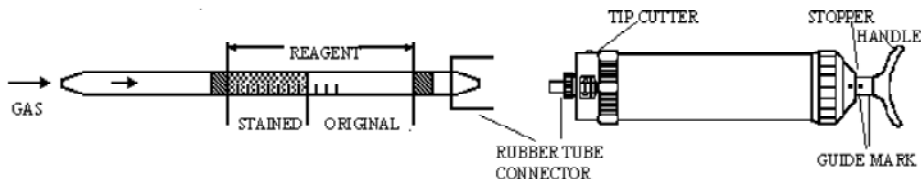

Fig.1
- ② Insert the detector tube into aspirating pump securely as shown in Fig.1. (Arrow mark shall point to the pump.)
- ③ Align the guide marks on the shaft and stopper of the aspirating pump.
- ④ Pull the pump handle at full stroke until it locks and wait for 2 minutes or until the completion of sampling is confirmed with the flow indicator of the pump (See descriptions about the flow indicator in the instructions of the pump).
- ⑤ On completion of sampling, read the scale at the maximum point of the stained layer.
- ⑥ If the discolouration is over the scale, change the tube and pull 1/2 strokes.